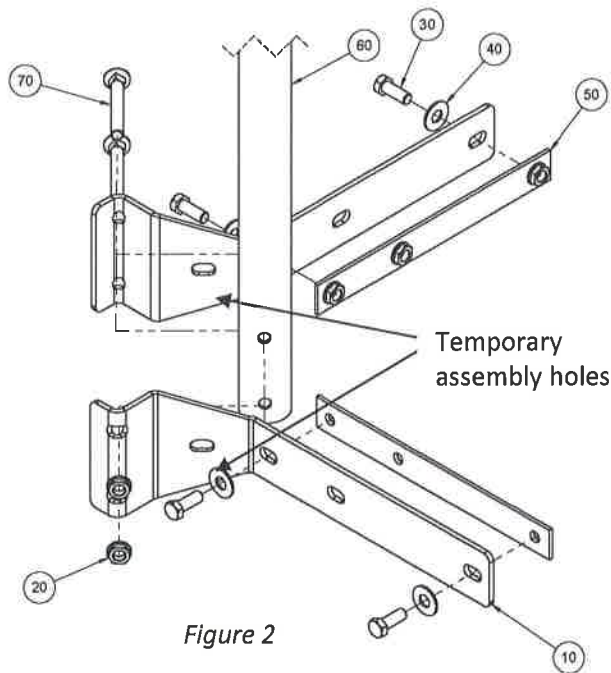

Figure 2
**Corner Posts and Post Brackets:** (See Figure 2) Note the position of the door in open position.
- Temporarily assemble **corner brackets** using temporary assembly holes in bracket halves (10) and a 3/8-16 nut and bolt (20, 30) See Figure 2.
- Temporarily assemble **center brackets** using temporary assembly holes in bracket halves and a 3/8-16 nut and bolt. (See Figure 2 for example with corner brackets)